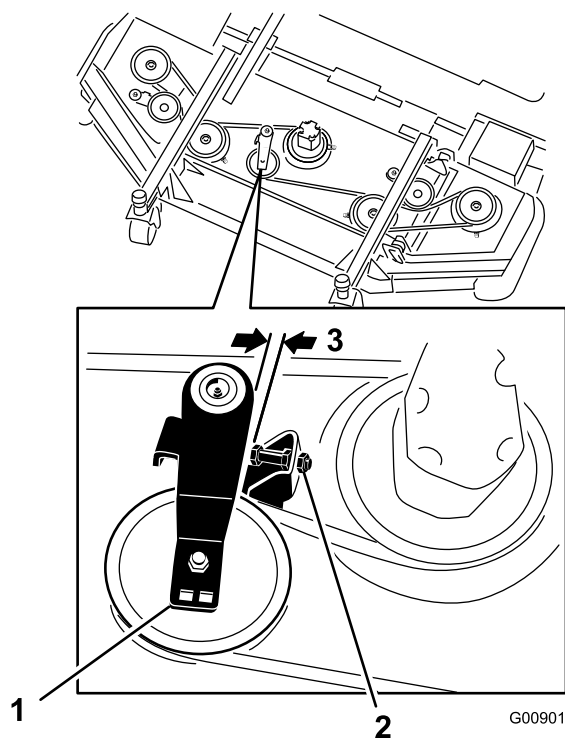

Figure 124
3. On the front deck, center position, loosen the jam nuts on the idler pulley stop screw and thread the stop screw into the bracket (Figure 124).
4. Using a ratchet wrench or similar tool, move each wing-deck idler pulley away from the drive belt to release the belt tension and allow the belt to slip off the wing-deck pulley (Figure 124).